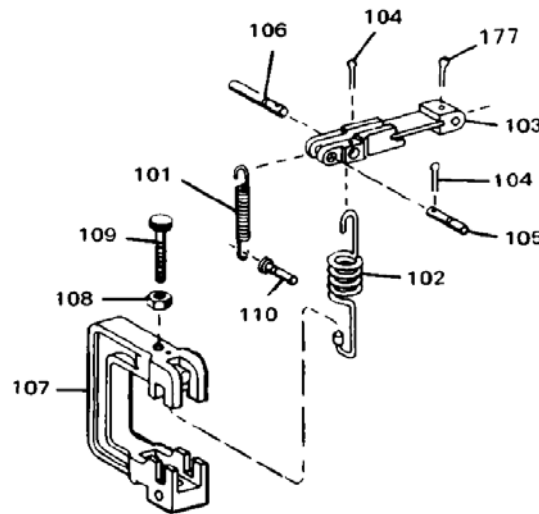

Figure 3-4. Exploded View of Low Speed Adjustment
Loosen and tighten lock nut (108, Figure 3-4), to adjust the low speed stop screw (109), only when the governor is stopped. Governor rotation, while making this adjustment, causes the pilot valve plunger to bind in the pilot valve bushing.